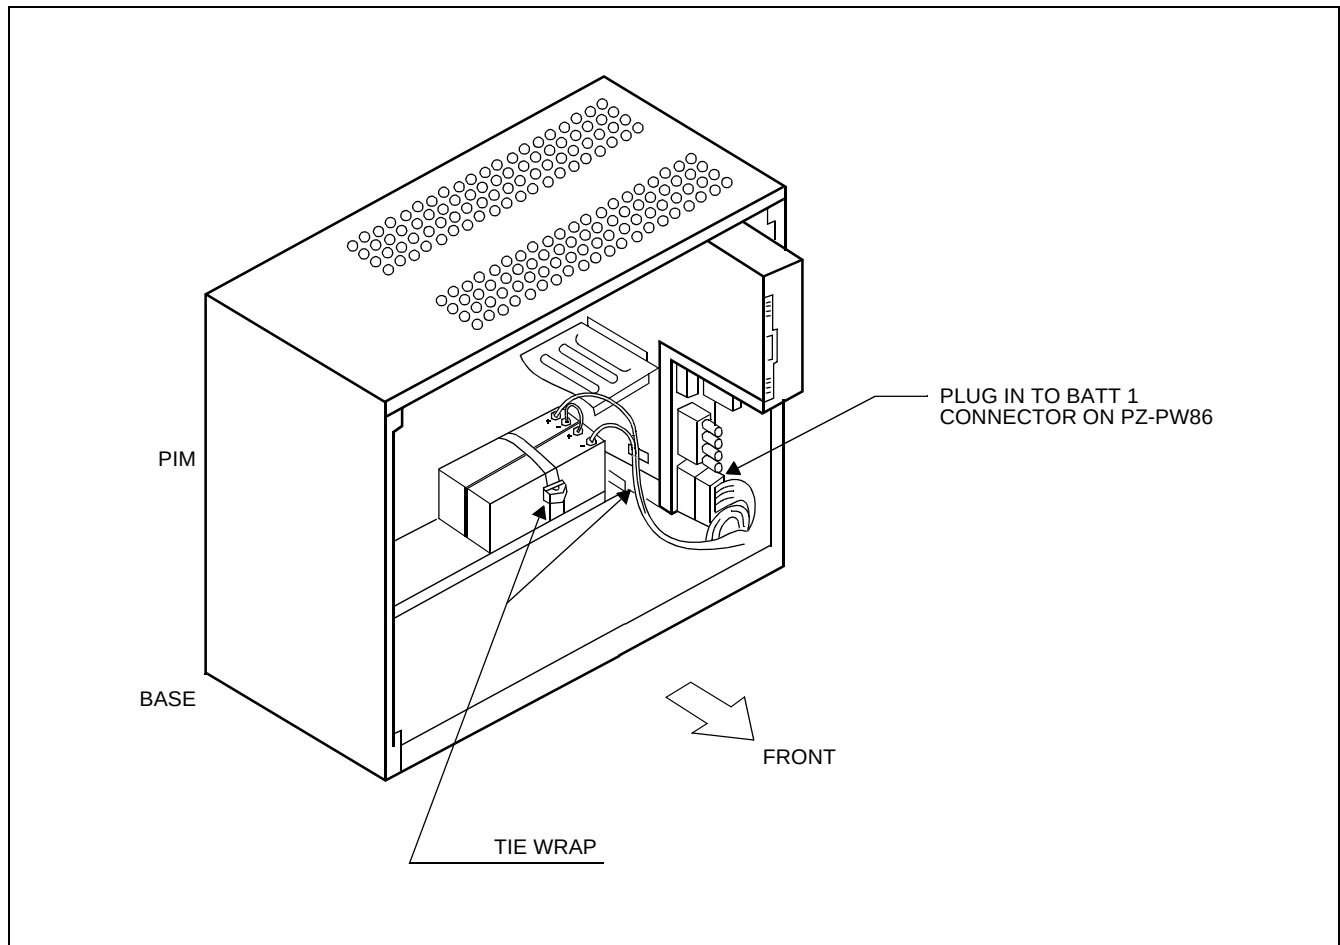

Figure 005-3 Internal Battery Connection
- (2) Plug the battery cable connector into the BATT1 connector on the PZ-PW86/PZ-PW112 as shown in Figure 005-3.
- (3) Secure the batteries and battery cable using tie wraps.